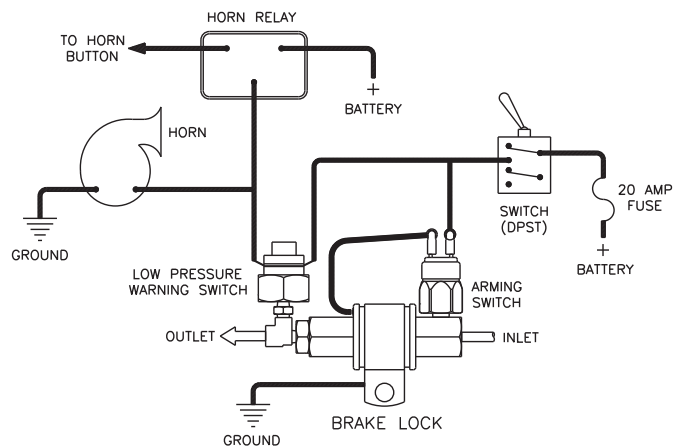

FIGURE 2
When horn draw does not exceed 10 amps the vehicle horn relay may be bypassed. (See Figure 2)
1. Connect terminal on brake lock arming switch and one terminal of Low Pressure Warning Switch (LPWS) to the dashboard toggle switch (as shown in figure 2). Then connect the corresponding terminals from toggle switch to any 20 amp fused HOT terminal behind the dash as shown.